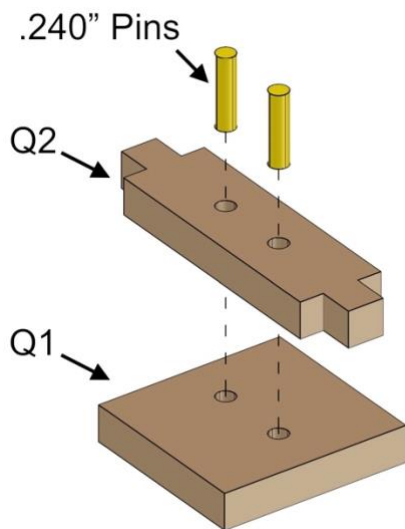

Fig. 81
- Align parts exactly as shown in Fig. 81.